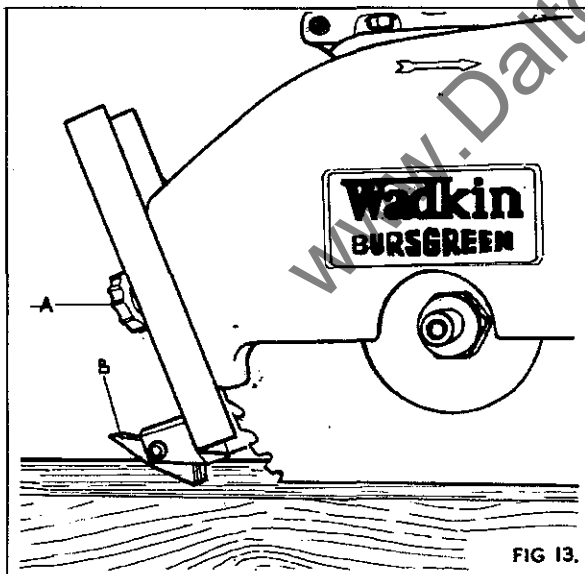

FIG 13.
The guard gives maximum protection for all operations. The guard is fitted with an anti-kick back device as shown in Fig. 13 and riving knife for ripping. The riving knife is easily detachable and can be replaced by a sheet steel visor when used for crosscutting. The visor is adjustable throughout the full depth of cut of the machine.
1. place timber to be ripped in kick back fingers as shown in Fig. 13.